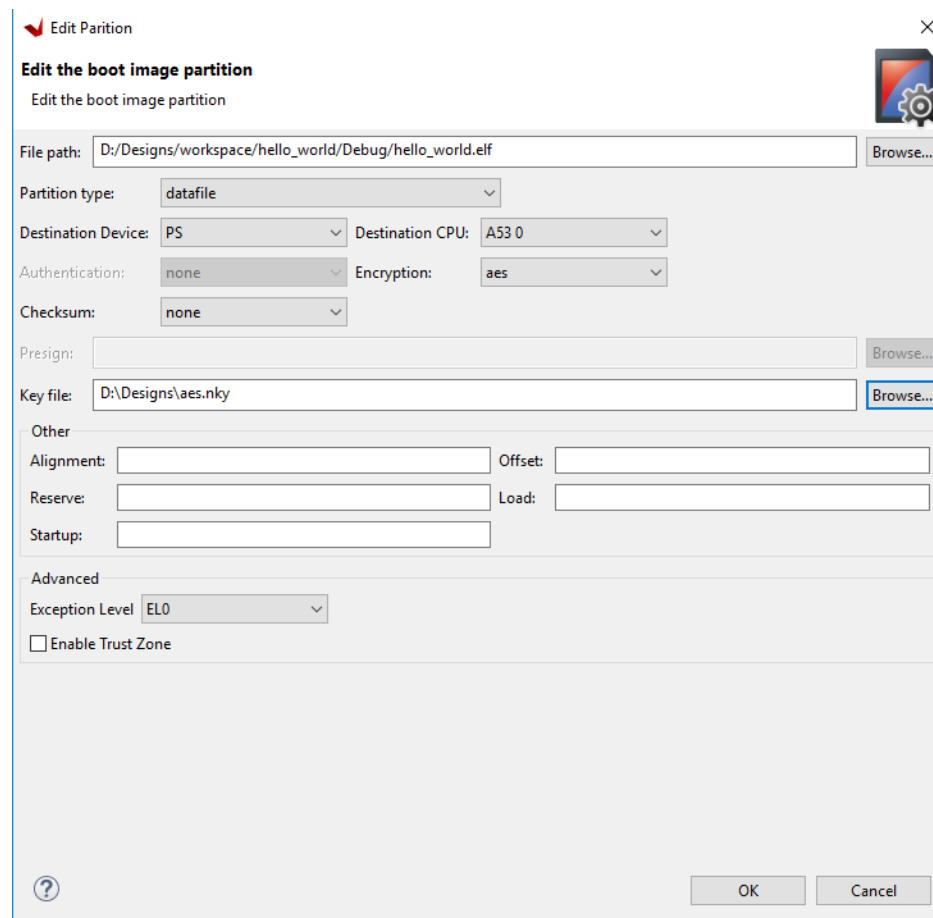

Figure 19: Encryption for hello_world Boot Image
8. Next, double-click the hello_world.elf, change the encrypted option to AES, and browse to aes.nky file as Key file as shown in Figure 19. Click **OK**.